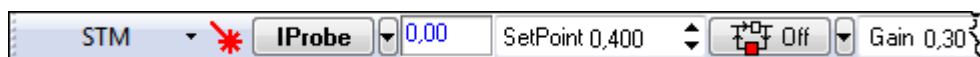

Fig. 10-2. Selecting the feedback input
1. Select **IProbe** as the feedback input (see Fig. 10-2).